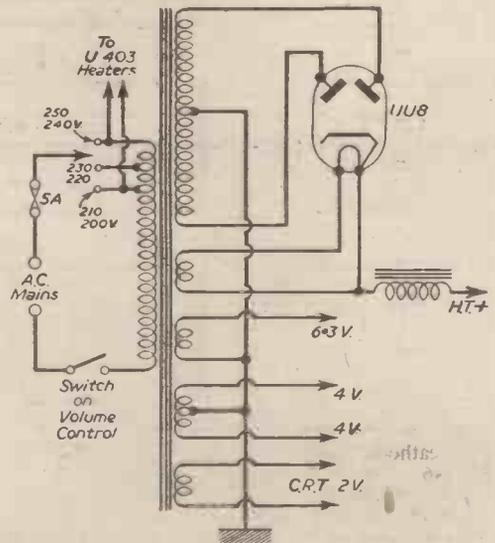

Fig. 1.—The power pack showing the V403 heater connections.
**T**HIS receiver is a console employing a 12in. Mazda CRM 121 tube and a superhet circuit. It is for A.C. mains only, and the chassis is not connected to one side of the mains as are the majority of more recent receivers, therefore it is a little more "safe" to work with except in the event of a heater to cathode insulation failure of the U403 valve. The heater arrangement of this valve is rather unusual since it is supplied from the primary side of the mains transformer as Fig. 1 shows. Therefore, if the fuse blows with the mains plug inserted one way round but not the other, or in the case of a three-pin connection, when the leads are reversed, change the U403. Without an earth connection, the chassis would just become "alive," and would thus constitute a danger to the unwary.